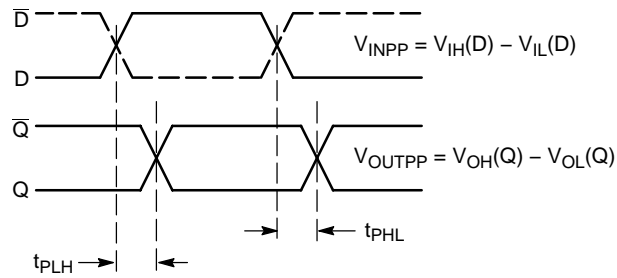

Figure 13. AC Reference Measurement
11. See Figure 13 differential measurement of $t_{skew} = |t_{PLH} - t_{PHL}|$ for a nominal 50% differential clock input waveform @ 250 MHz.